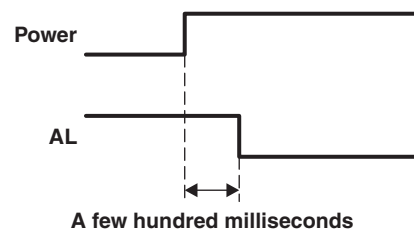

Figure 4. Power-on to AL Delay
After power is supplied to the device, the Lock Detection pin (AL) may remain high for a few hundred milliseconds (see Figure 4).